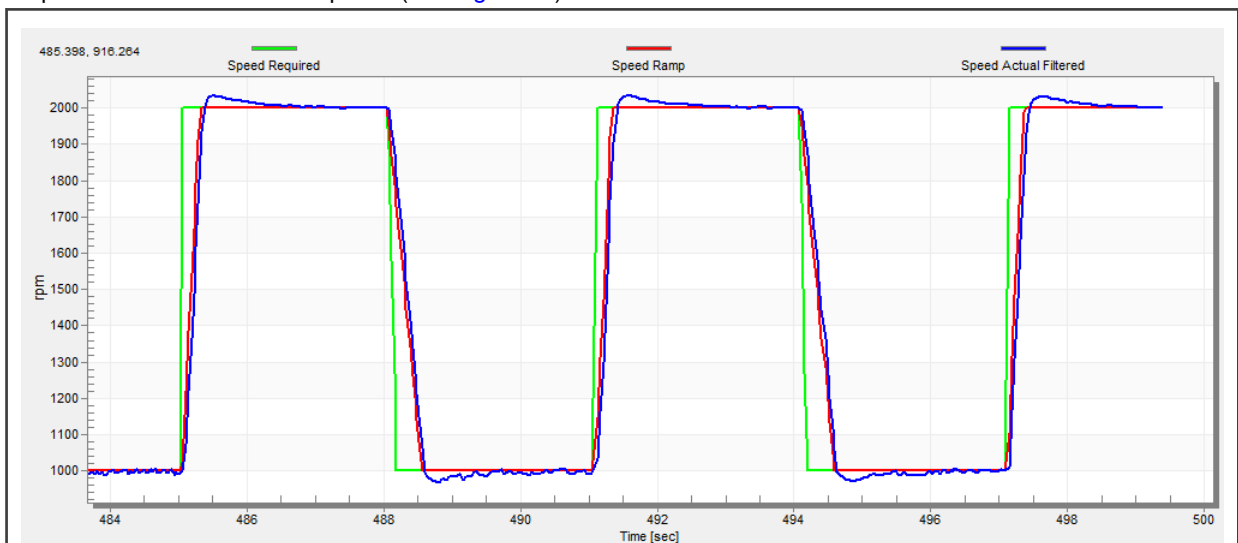

Figure 31. Speed controller response—speed loop response with a small overshoot
- The speed loop response has a small overshoot and the “Speed Actual Filtered” settling time is sufficient. Such response can be considered optimal (see Figure 31).